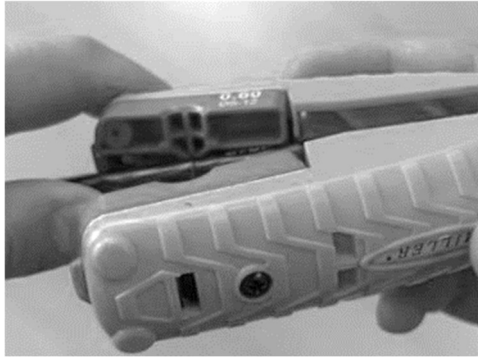

Figure 4 . If necessary, cut the cable sheath longitudinally before removal
4.5 Generally, the 130 mm section of outer sheath can be removed by sliding it over the end of the cable. If not, use the Miller MB02 in its longitudinal slot to make a cut between the ring cut and the end of the cable (Figure 4).